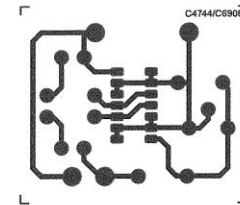

Figure 6
1. Assemble per Parts Layout (Figure 1), Parts List and Schematic (Figure 6) using rosin or resin core solder only. Make sure to wear your safety eyeglasses or goggles before you start assembly.